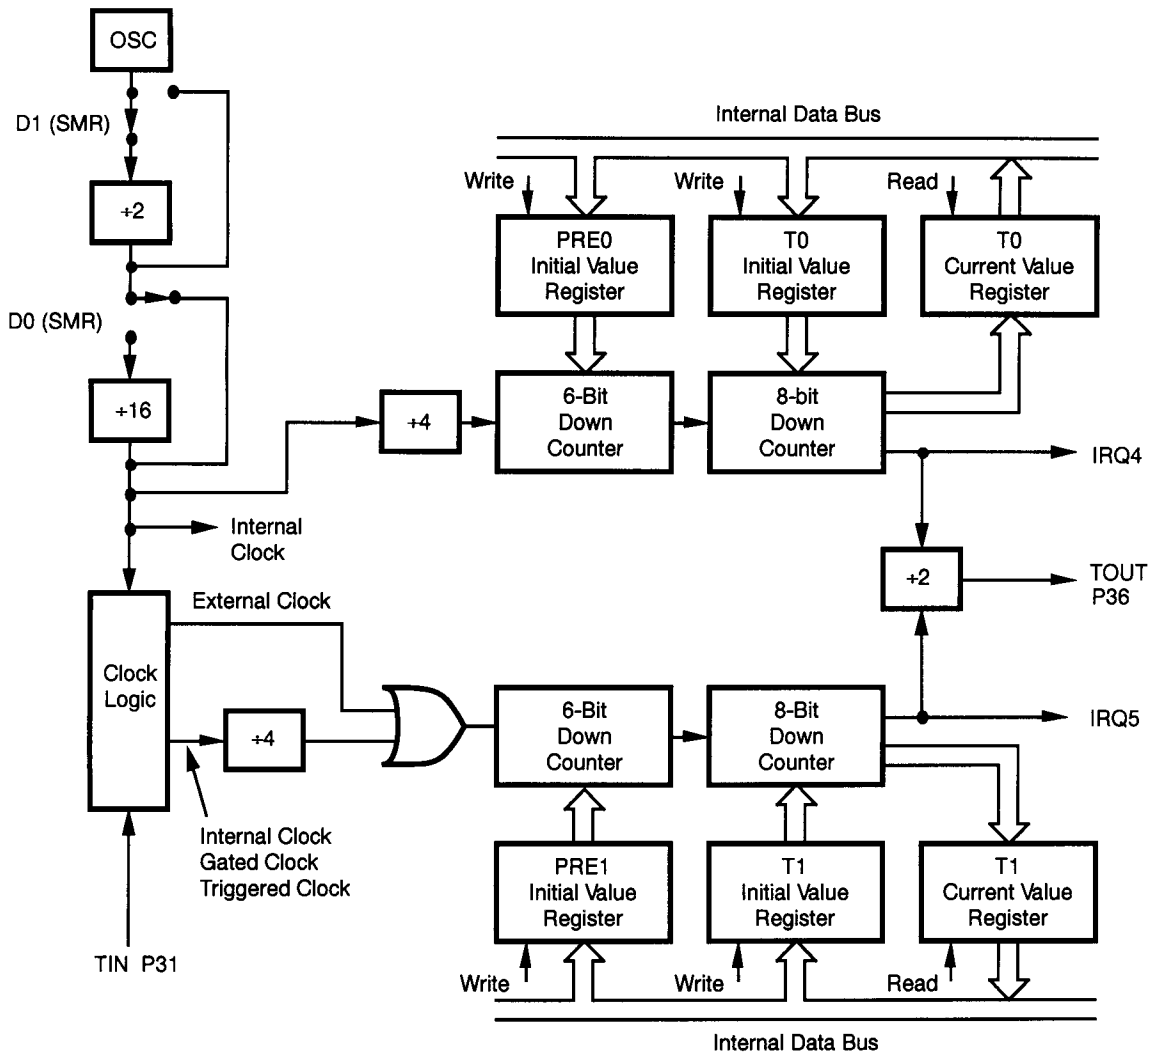

Figure 22. Counter/Timer Block Diagram
**Register File.** The register file consists of four I/O port registers, 236 general-purpose registers and 15 control and status registers (R0-R3, R4-239 and R240-R255, respectively), plus three system configuration registers in the expanded register group. The instructions access registers directly or indirectly through an 8-bit address field. This allows a short, 4-bit register address using the Register Pointer (Figure 22). In the 4-bit mode, the register file is divided into 16 working register groups, each occupying 16 continuous locations. The Register Pointer addresses the starting location of the active working register group.